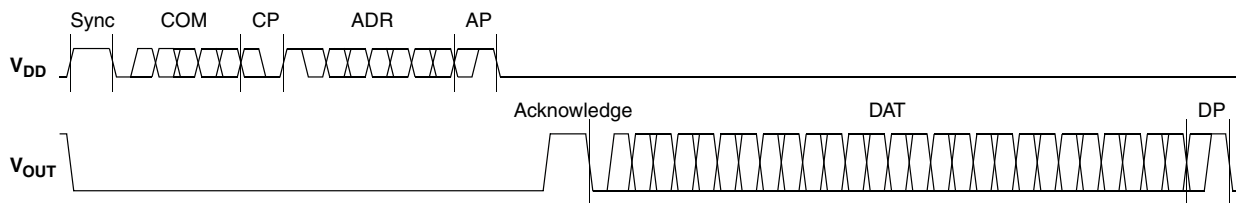

Fig. 5-3: Telegram for coding a Read command
- Read a register (see Fig. 5-3)